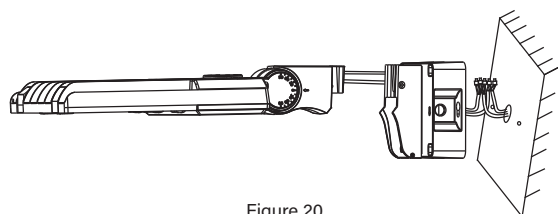

Figure 20
5. Connect the fixture leads to supply wires using UL listed wire connectors and according to local, state, and federal codes. Push all wires into the wall mount kit. (Figure 20)